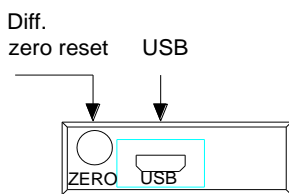
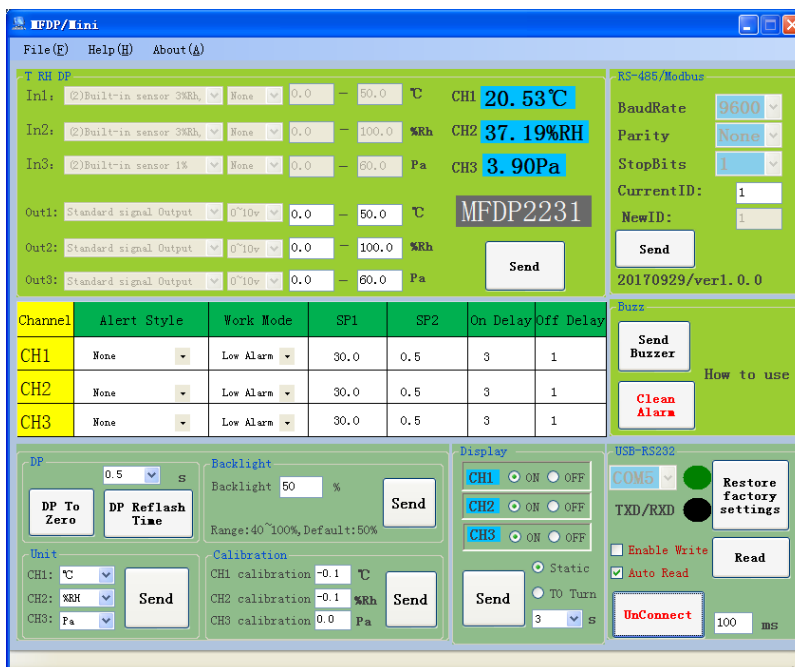

Fig 4
Fig 7
1. Pressure zero reset button is used to reset the zero drift of the built-in DP sensor, as in Figure 4. User can connect the “+” and “-” ports first, then press the button for 3 seconds to finish the operation.
3. Computer program can set all parameters. Computer can be connected to the product through USB, shown as Fig 4 and 6. The interface is as fig. 7. Click "Help" can get the help. The software for configuring can be downloaded from TERENCE's official website: www.teren.com.cn, with path: resources download → tools and software.